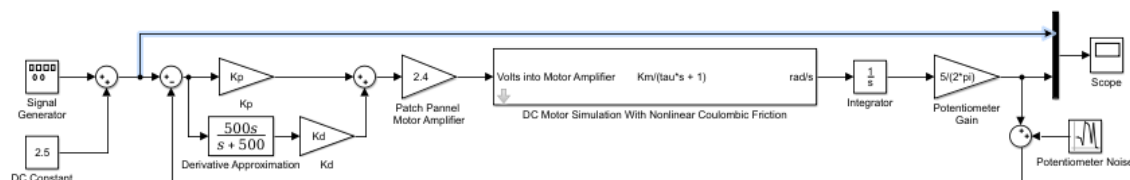

Figure 9: Proportional-Derivative Controller Simulink Block Diagram
You will now replace the previous controller with a P-D controller similar to the one shown in Figure 9.
- Go back to the block diagram and make the connections to match Figure 9.